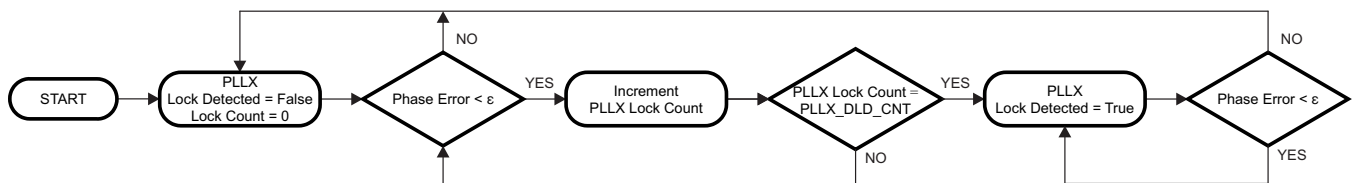

Figure 17. Digital Lock Detect Flowchart
Both PLL1 and PLL2 support digital lock detect. Digital lock detect compares the phase between the reference path (R) and the feedback path (N) of the PLL at the phase detector. When the time error(phase error) between the two signals is less than a specified window size (ϵ), a lock detect count increments. When the lock detect count reaches a user-specified value, PLL1_DLD_CNT or PLL2_DLD_CNT, lock detect is asserted (true). When digital lock detect is true, a single phase comparison outside the specified window causes digital lock detect to be deasserted (false). This is illustrated in Figure 17.